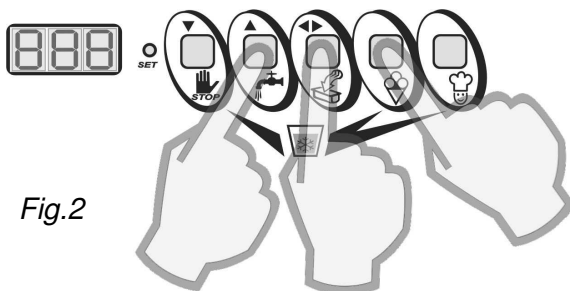

Fig. 2
4. Press the **"AGITAZIONE (MIXING) (▲)"**, **"AUTOMATICO (AUTOMATIC)"** and **"ESTRAZIONE (EXTRACTION) (◀▶)"** keys simultaneously to type in the password and then confirm it.(Fig. 2). If you do not know the password, contact the Frigomat assistance service.